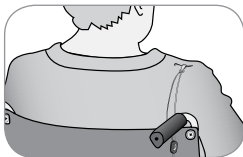

Fig. 18
- Out of the patient's/resident's reach (Figs. 18 and 19).